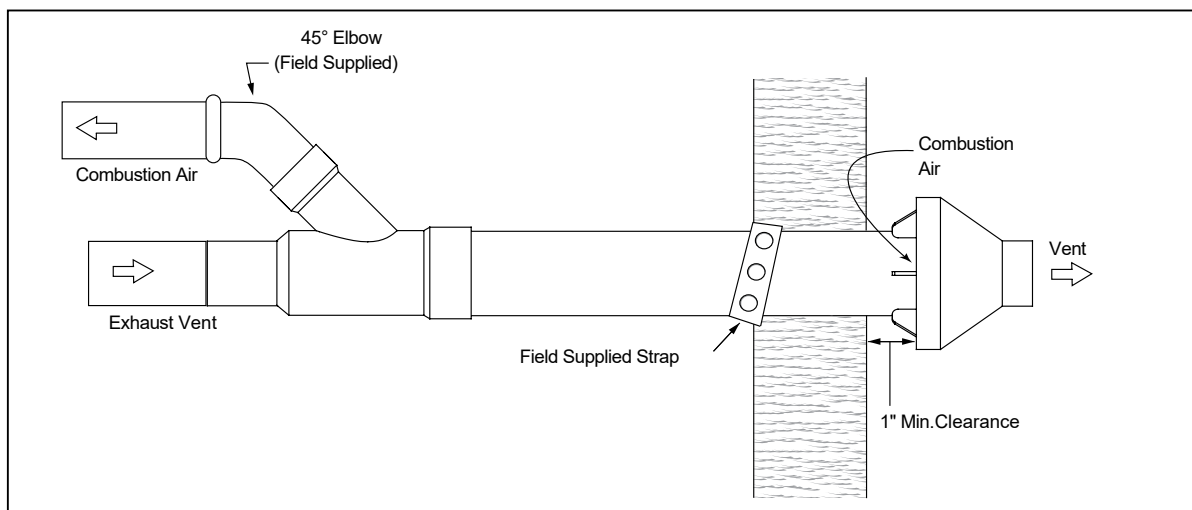

Fig.7-15 Side Wall Installation
4. Install cemented Y concentric fitting and pipe assembly through structure's hole (Fig.7-15). NOTE: Do not allow insulation or other materials to accumulate inside pipe assembly when installing through hole.
5. Secure the assembly to the structure as shown in Fig.7-15 using field supplied metal strapping or equivalent support material.
NOTE: Ensure termination location clearance as shown in Fig.7-15.